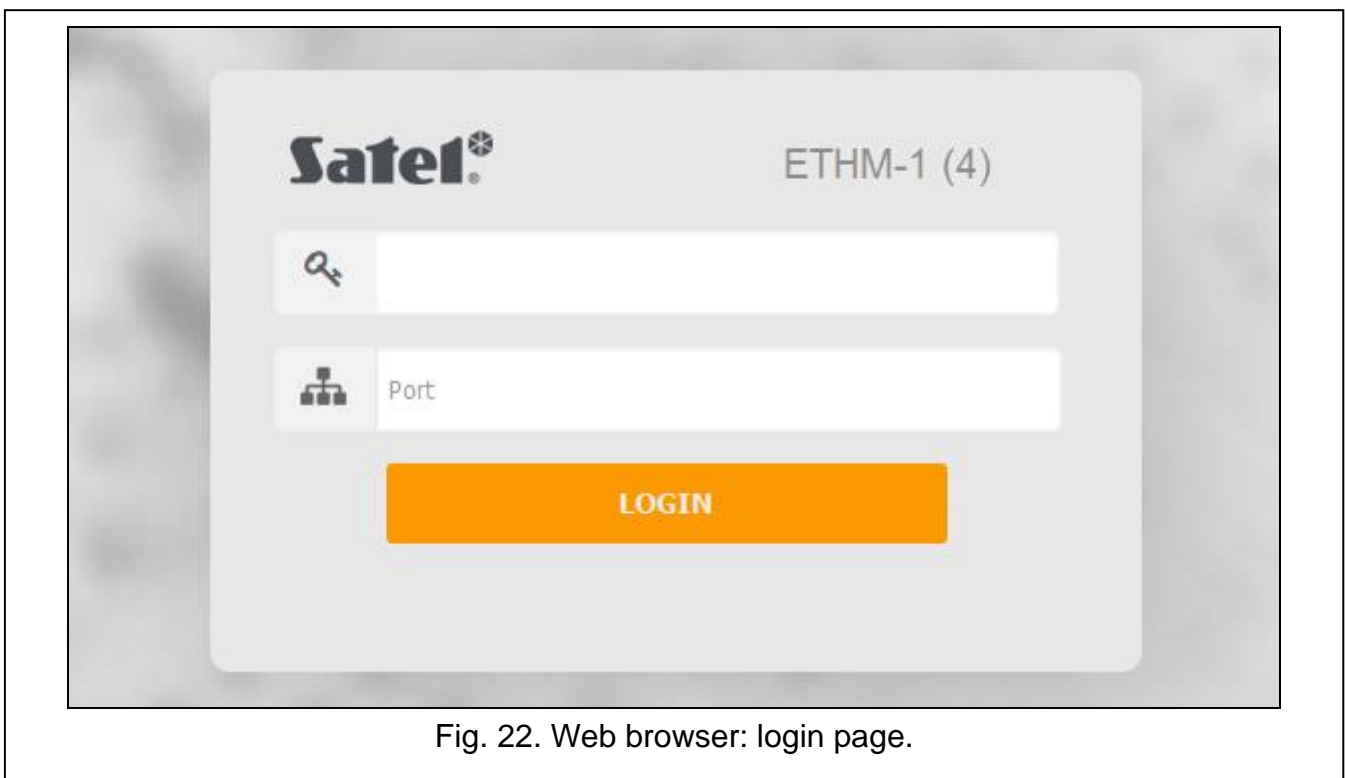

Fig. 22. Web browser: login page.
3. When the login page displays (Fig. 22), enter in the corresponding fields: